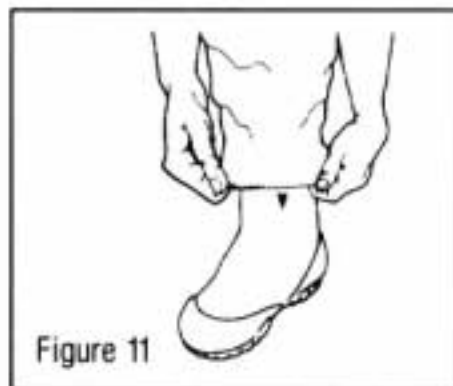

Figure 11
2. While seated, insert one leg at a time into containment suit. With feet inserted into stirrups or booties, lift boot flap on outside of each leg of the suit. Then, don and secure outer boots provided by your employer. Pull boot flap down over outside of outer boot (see Figure 11).